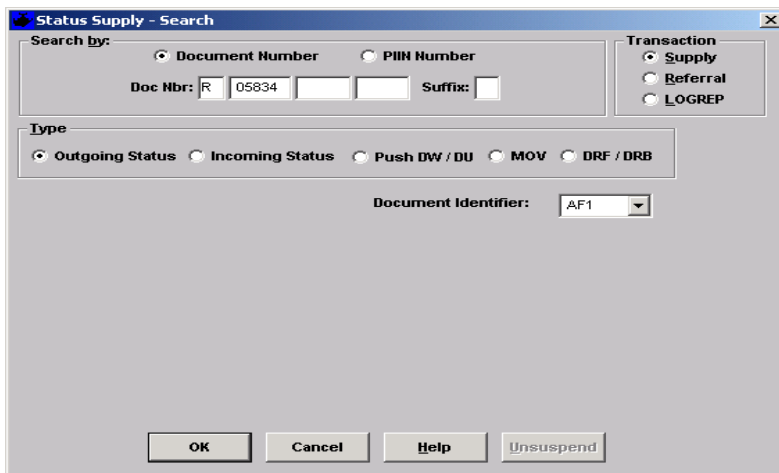

Figure 6.9
- 6.3.1 With *Supply*, *Referral*, or *LOGREP* selected on the *Status Supply - Search* window (Figure 6.9), the user is allowed to initiate an *Outgoing Status* request, post an *Incoming Status* record, post a *Push* transaction, post an incoming *MOV (Material Obligation Validation)* request/response, or post a *Delinquent Material Receipt Acknowledgment Follow-up/Reply*. It also is used to select a *PIIN* to process status against.
6.3.2.1 Depending on *Type* and *Document Identifier* selected on the *Status Supply - Search* window (*Figure 6.9*), modify available fields as required.
- 6.3.2.4 To submit, select **Apply**  on the **Status Supply** window (*Figure 6.10*). The **Status Supply - Search** window (*Figure 6.9*) returns. The supply status is now queued for release using **Release Status** (see paragraph 6.5).